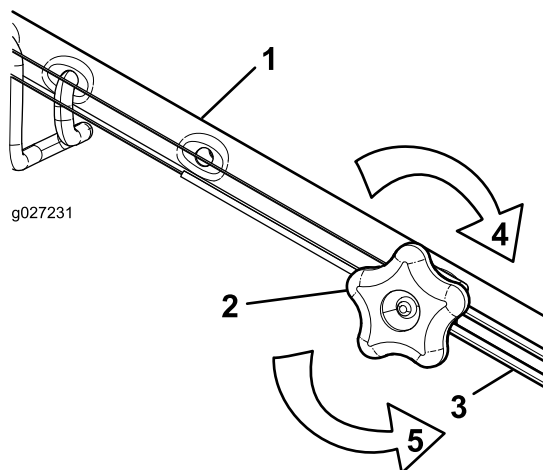

Figure 27
1. Turn the adjustment knob counterclockwise to loosen the cable adjustment (Figure 27).
2. Adjust the tension on the cable (Figure 27) by pulling it back or pushing it forward and holding that position.